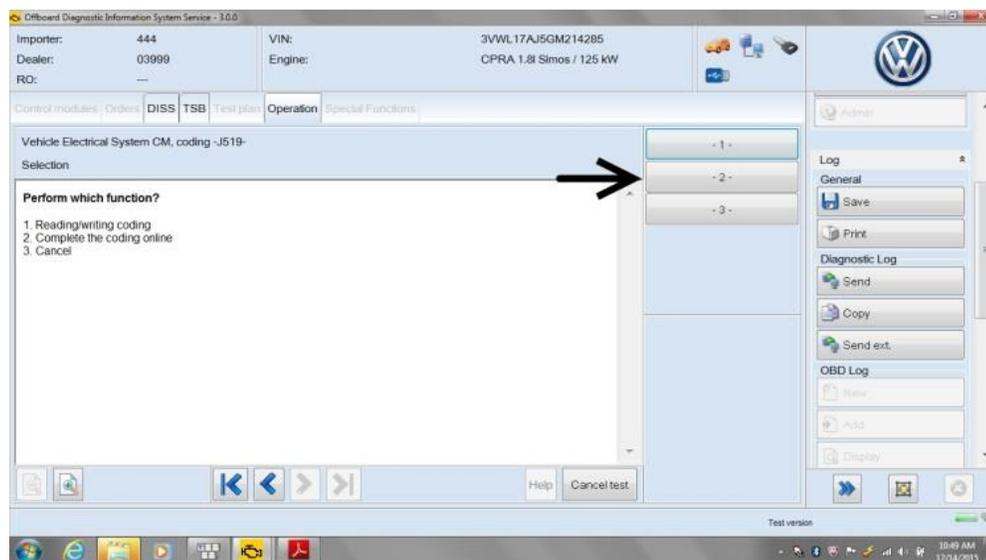

Figure 5
- Depress -2- (Complete the coding online). (Figure 5)